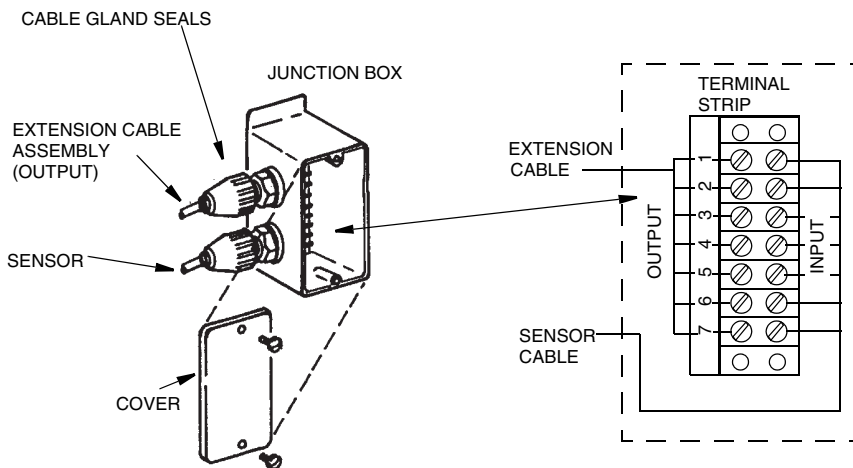

Figure 24. Junction Box Wiring
The junction box (Figure 24) provides for connecting the sensor assembly cable to the extension cable. See previous section. These junction boxes are weatherproof and dusttight as defined by IEC IP65 and provide the watertight protection of NEMA Type 4. Specify Part No. 0051052.
1. Remove the junction box cover and loosen the cable connectors (see Figure 24).
3. Insert extension cable assembly through appropriate connector and connect the numbered terminals of extension cable assembly as shown in Figure 24.